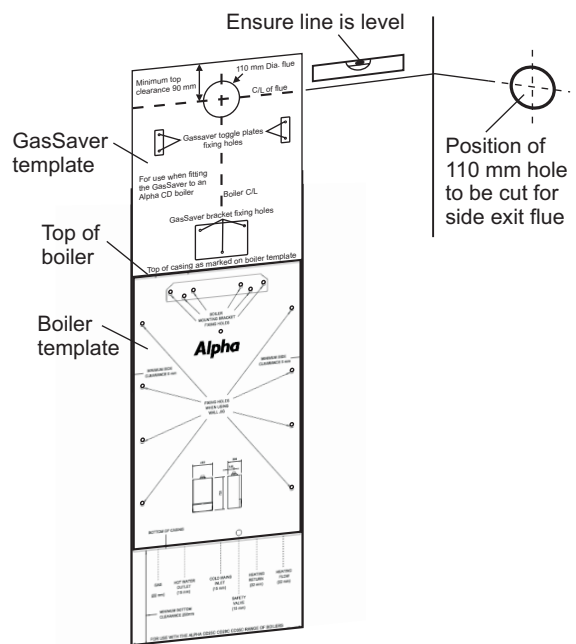

Fig. 7
5.3 FIT THE GASSAVER - Figs. 7 and 8
3. Use the GasSaver wall template in conjunction with the boiler wall template (Fig. 7) to determine the positions of the flue hole and the holes for the various fixings.